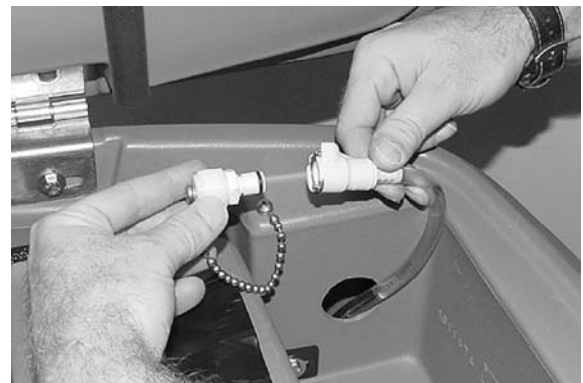

FIG. 60
9. When finished, connect the supply hose to the storage plug (Figure 60).